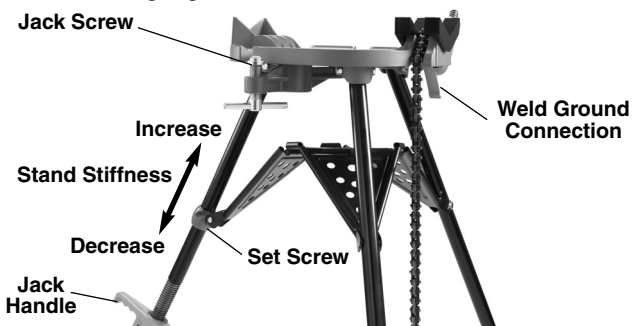

Figure 2 – Adjusting Tray Support (460-12)
8. Welding Connection – The 460-6 and 460-12 TRISTAND Pipe Vises include a welding ground connection point under the vise, see Figure 2.